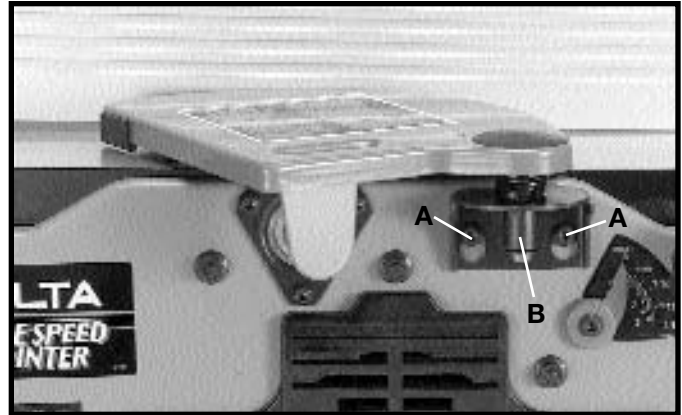

Fig. 14
2. Assemble guard mounting bracket (B) Fig. 14, to the two screws (A) as shown, and tighten the two screws (A).